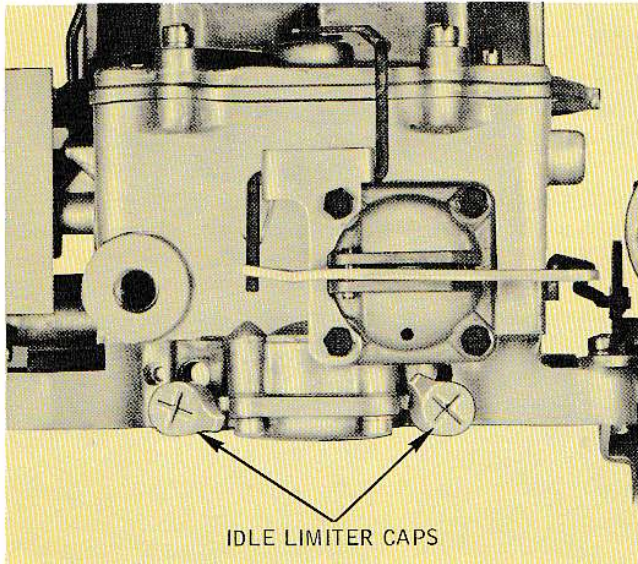

Fig. 22 – Idle Fuel Mixture Limiter Caps – Autolite Carburetors
1. On Autolite (all models) and Carter 4-V carburetors, set the idle fuel mixture screw(s) and limiter cap(s) to the full-counterclockwise position of the limiter cap(s) as illustrated in Fig. 22.